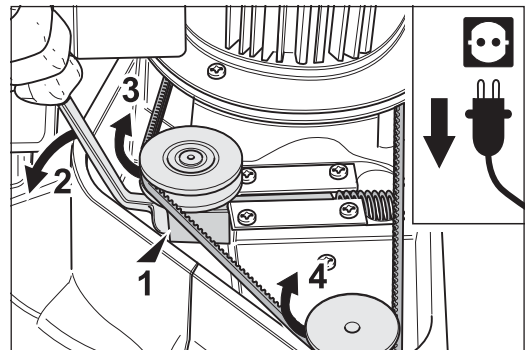

Fig. 92 Release the tension of the V-belt by carefully applying the cranked closed-mouth wrench and moving the belt tensioner as shown.
- 10 Release the tension of the V-belt by carefully moving the V-belt tensioner using cranked closed-mouth wrench. The V-belt can now be disengaged from the pulleys and the belt tensioner (fig. 92).